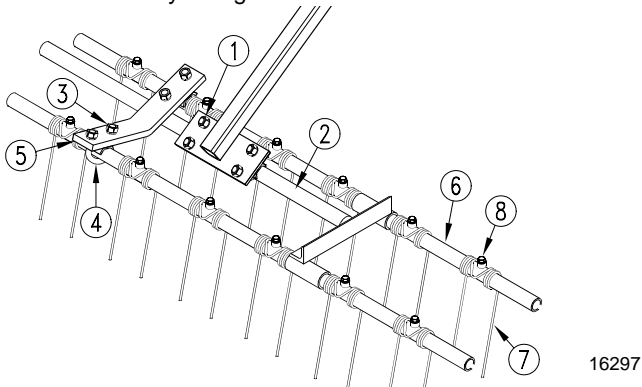

Figure 4
To adjust the frame, refer to Figure 4. Loosen the four hex nuts (1) on the u-bolts and rotate the frame tube (2) as necessary.